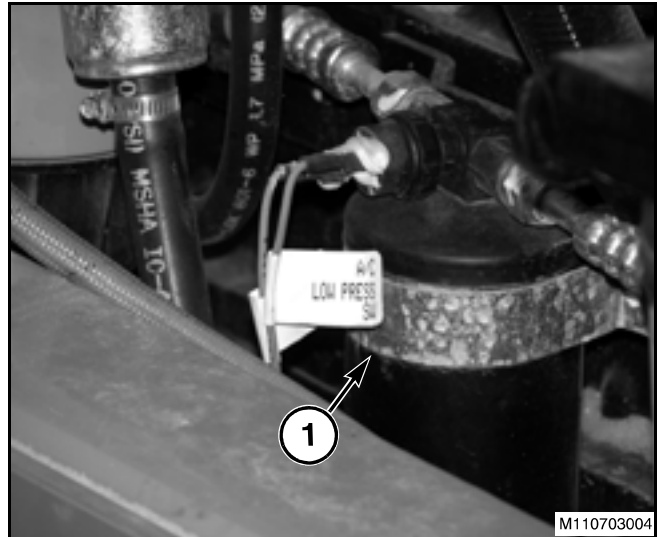

FIG. 7
FIG. 7: Receiver/drier (1) stores liquid refrigerant to ensure a steady flow to thermostatic expansion valve is maintained under widely different operating conditions.